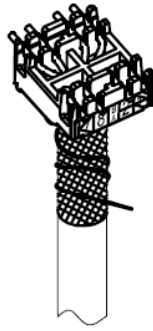

Fig. 9
- 2) Lay the wires to their correct positions based on the color code (TIA568A/TIA568B) (Fig 9)